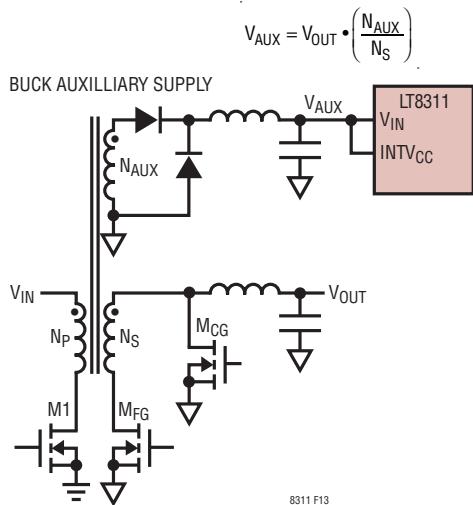

Figure 13. Buck Circuit Generates V_{AUX} Supply, Which Powers LT8311’s V_{IN} and INTV_{CC} Pins
3. Use a buck circuit from an auxiliary transformer winding, as shown in Figure 13. This circuit has the benefit of being highly efficient, and is fairly simple to design. It is particularly useful for low output voltage applications (3.3V or 5V) that do not have an external housekeeping supply, and where powering directly from the output voltage is inadequate. In this configuration, the buck circuit's output voltage derives its energy from secondary-side switching pulses that also source energy to the forward converter's main output voltage, V_{OUT} . Careful consideration must be given to ensure that the buck output voltage comes up well in time, and turns on the LT8311 to provide synchronous and opto control before the forward converter's actual output voltage gets close to regulation. If there is a need to speed up